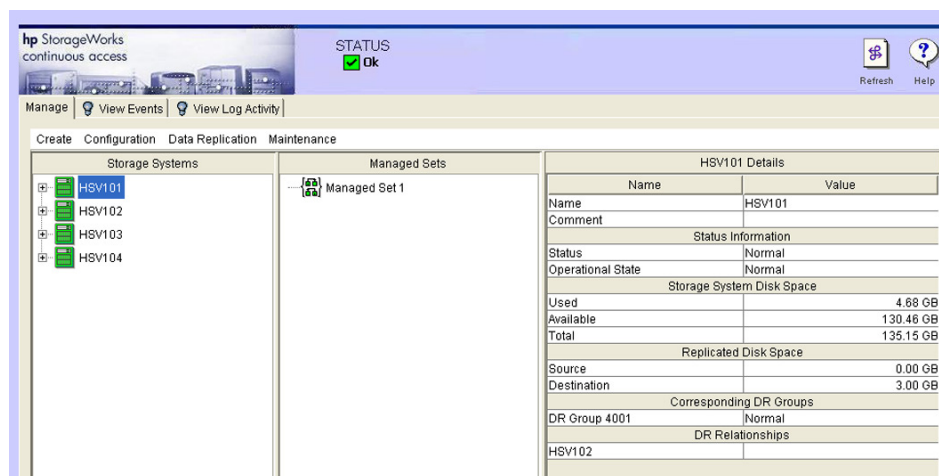

Figure 25: Storage selection on Continuous Access user interface main window
2. In the Storage System pane, choose the storage system folder that contains the Vdisks from which you want to create copy sets. See Figure 25.